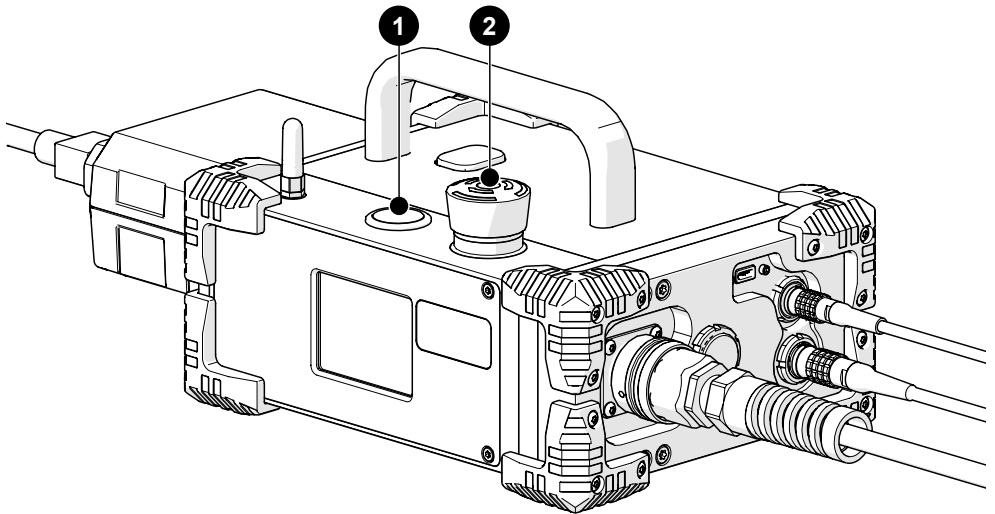

Fig. 79 - System controller
3. Locate the **2** red off push-button on the system controller. Rotate this button clockwise to unlatch (Fig. 79).
4. The **1** power button (Fig. 79) on the system controller activates the system.